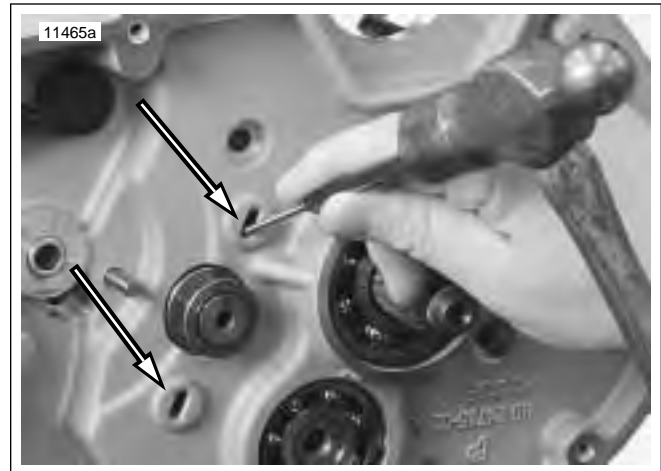

Figure 6-56. Slots For Removing Shifter Fork Shafts
- See Figure 6-56. Remove shifter fork shafts by inserting a small flat punch in the slots and tapping on the end of each shaft until it falls free.